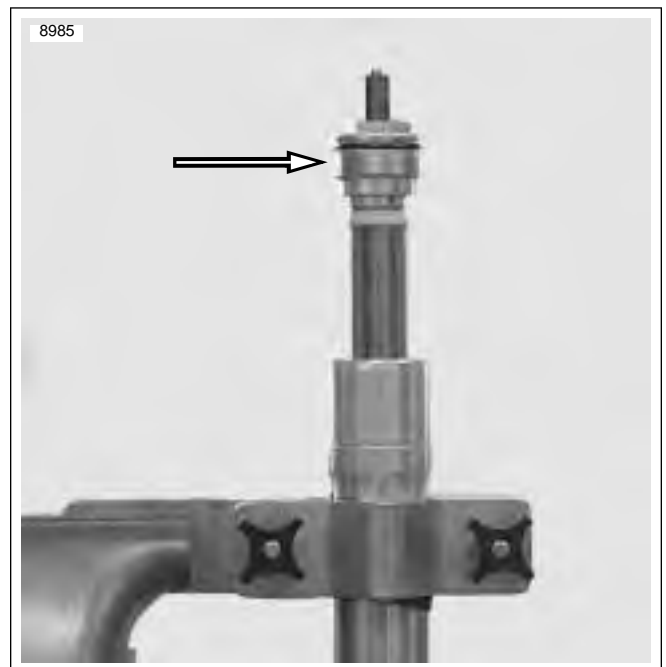

Figure 2-67. Removing Fork Cap From Outer Tube
5. See Figure 2-67. Remove fork cap from outer tube.